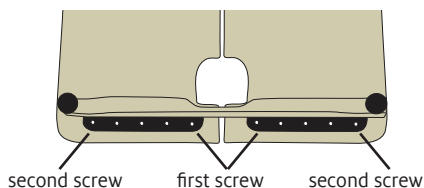

FIGURE 2: ATTACH THE TREADLES
3. Using a Phillips screwdriver, attach the treadle hinge to the left treadle using five #8 x 1/2" Phillips truss head sheet metal screws. Insert a screw at the innermost edge and fasten loosely, then insert the screw at the outermost edge (Figure 2). Tighten the screw only until it stops turning. Go back and tighten the first screw, then insert the remaining three screws. Be careful not to overtighten the screws. Repeat for the right treadle.